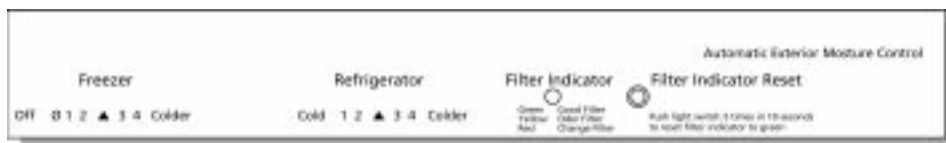

Fig. 2
2. Water filter control (on some models) (Fig. 2)